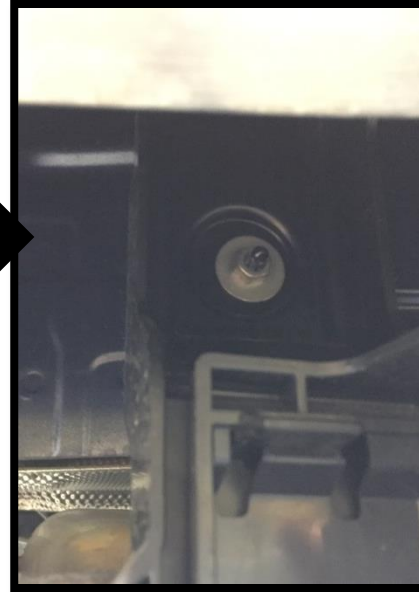

Figure 2
1. Remove Lower Fascia - Use 8 mm socket to remove (8) screws and (4) plastic expanding fasteners . Then gently unclip and pull fascia off and set aside for reinstallation later.
3. Remove heat shield - Use 10mm socket to remove (4) nuts on the upper portion of the heat shield.
4. Trim heat shield - Starting from the lower portion of the heat shield measure ½” inward from the outermost screwholes, draw a line all the way across. On the upper portion of the heat shield, draw a line all the way across the heat shield ½” from the top. Trim across using the lines drawn (2 trim cuts) similar to **Figure 2**.